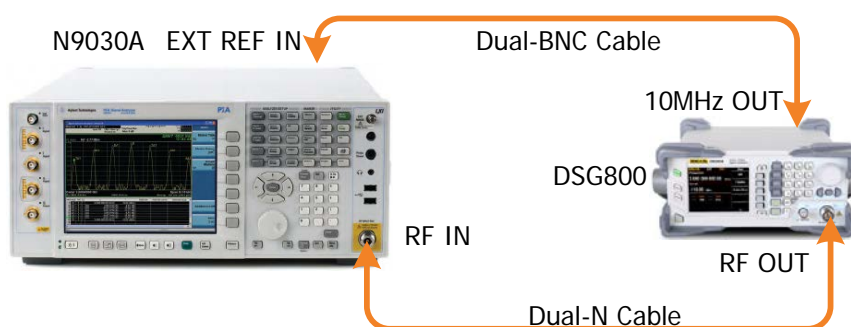

Figure 2-6 ØM Test Connection Diagram
1. Synchronize DSG800 and the signal analyzer. Connect the RF output terminal of DSG800 with the RF input terminal of the signal analyzer as shown in Figure 2-6.